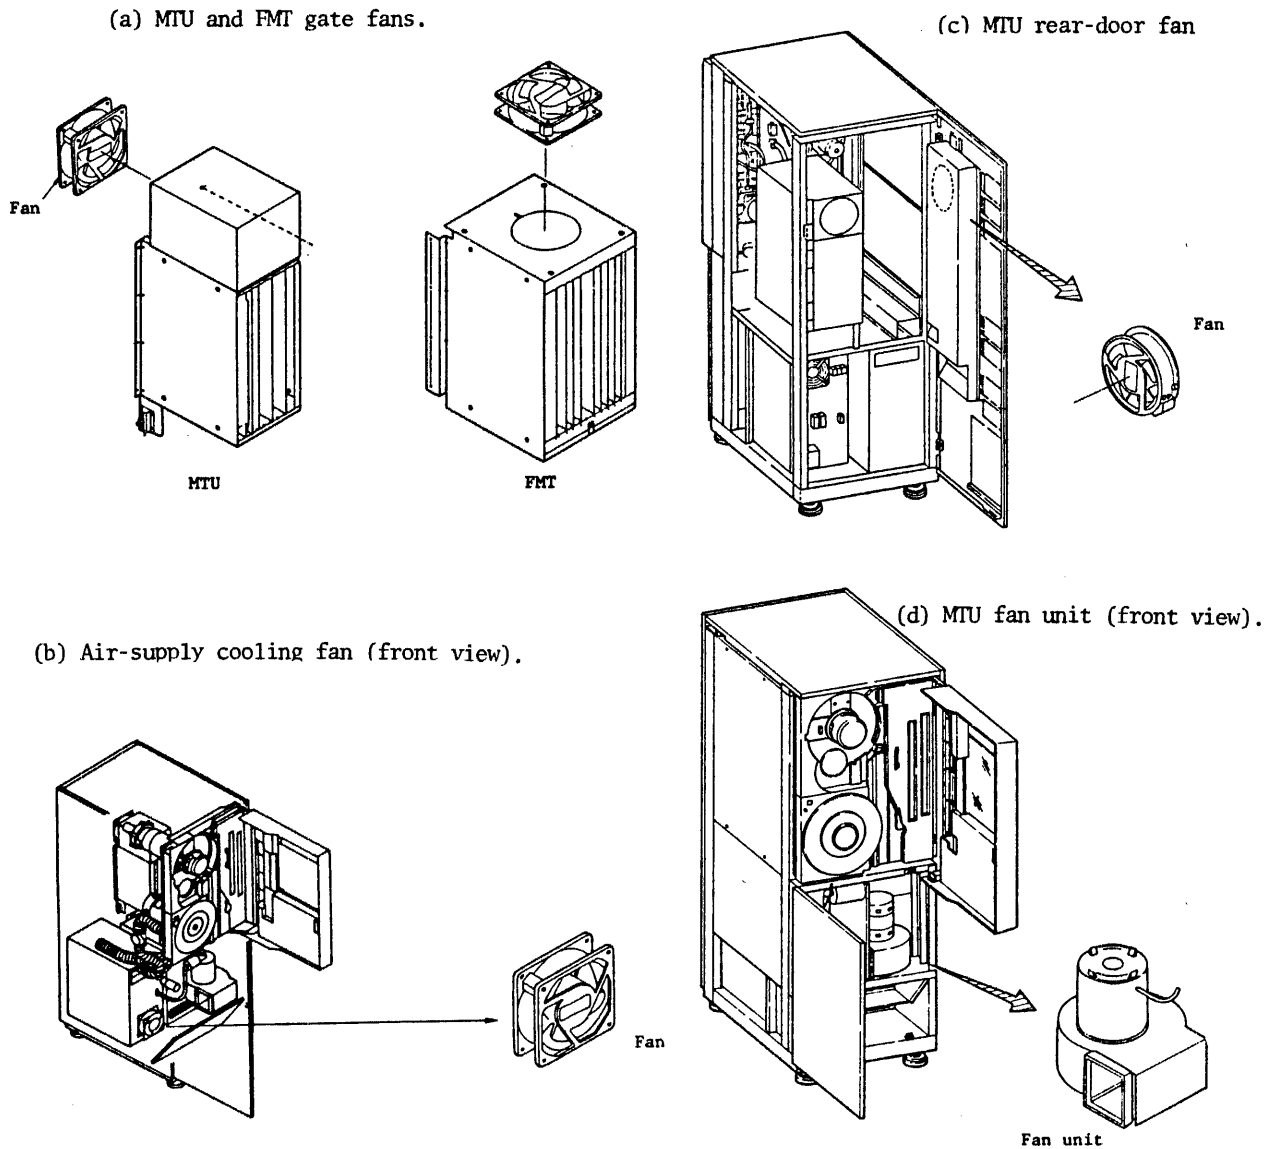

Figure 4-3. Location of fans.
- (12) Set all power supplies to OFF. Set slave power supplies to REMOTE.
- (13) Set FMT front panel POWER ON switch to ON, and verify that all units come on sequentially.
- (14) Verify that all fans listed below are operating. See Figure 4-3 for location of fans. (The FMT power supply fan is located on